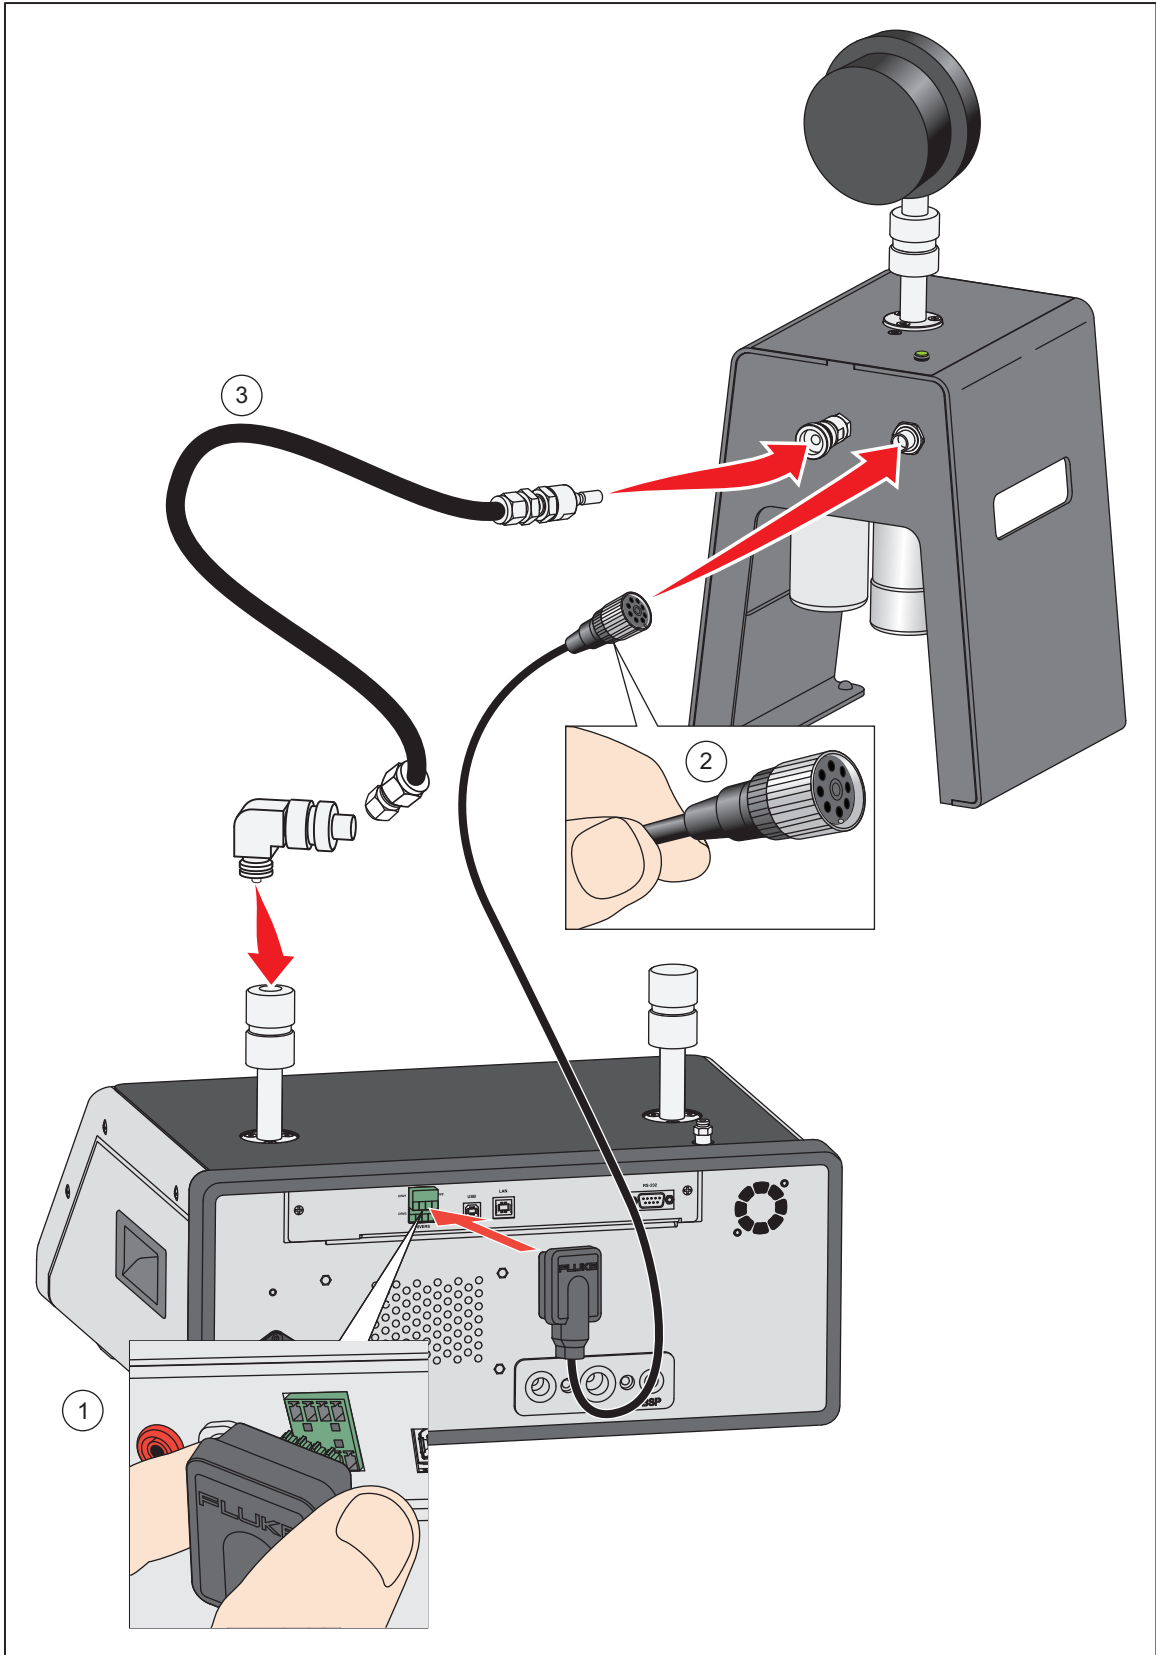

Figure 18. CPS Driver and Manifold Connections
1. Place the CPS on a solid surface near the Product. The CPS is heavy enough to sit on a bench and if desired, can be bolted to a bench. See Figure 18 for connections. Observe the correct polarity of the connector to the Product (the brown wire should be on the left of DRV3).
2. Connect the electrical cable from the CPS to the DRV1, DRV2, and DRV3 connections on the back of the Product. The connector ensures that the CPS is connected correctly. See Figure 18.